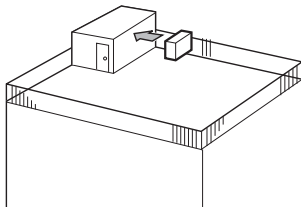

Fig. 1-19
- ① Face the air outlet towards the nearest available wall about 35 cm away from the wall. (Fig. 1-19)